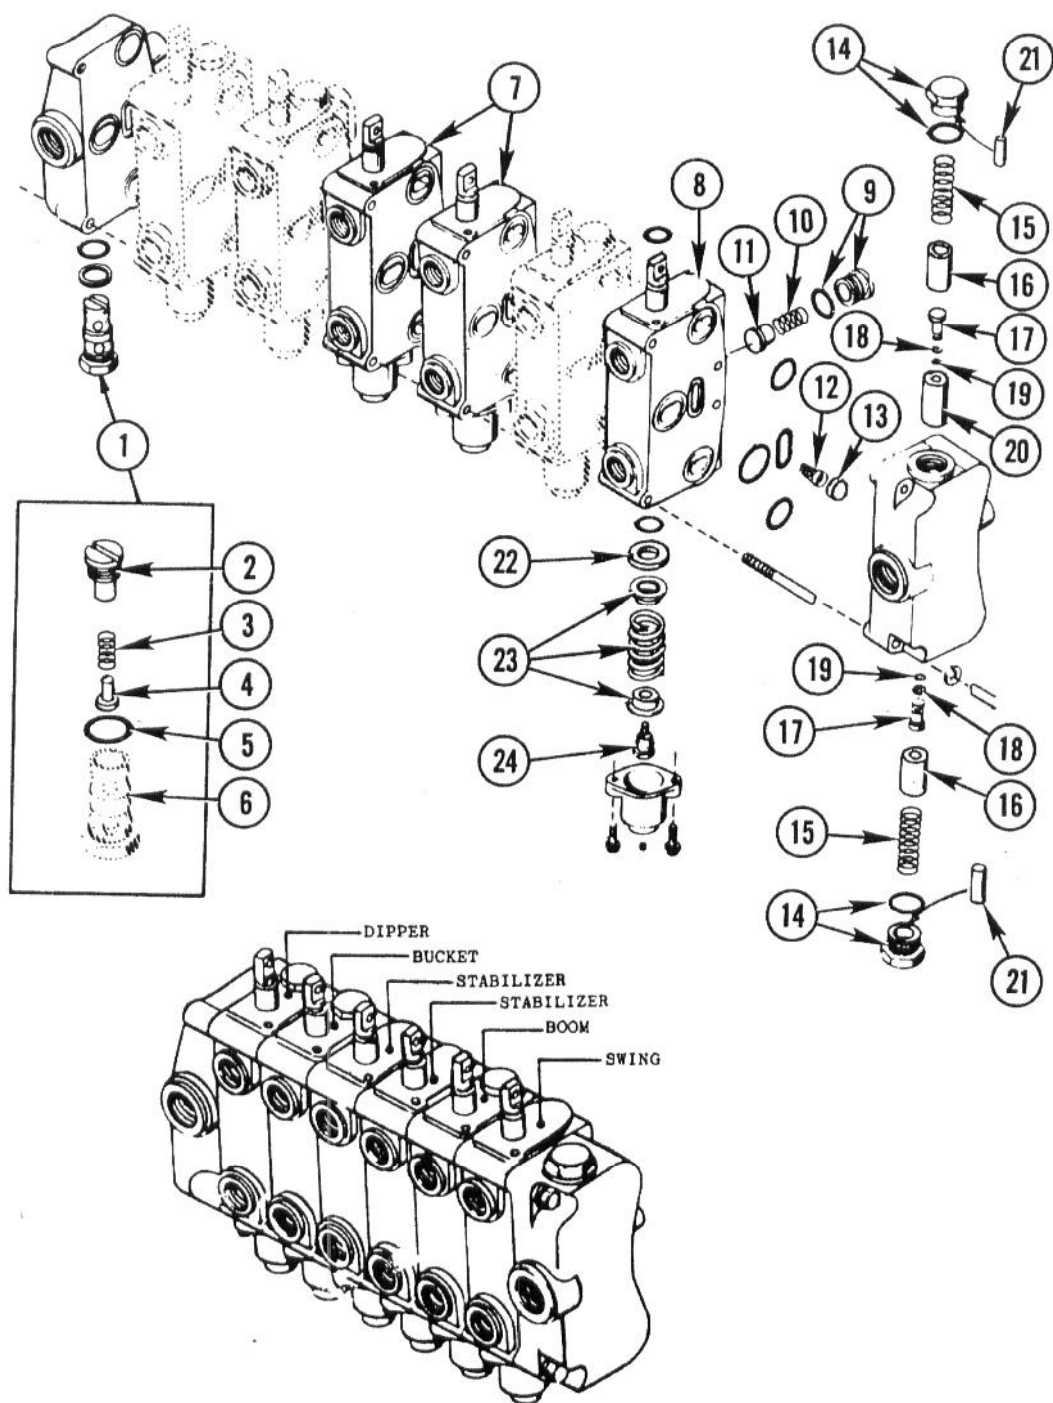

Fig. 14 — End Plates, Swing and Stabilizers Sections of Control Valve
2. The following service operations may be performed without separating the valve "working sections". (In some instances these procedures do not require complete removal of the control valve from its mounting position. This will depend upon accessibility to the valve.), see Figs. 14 and 15.
c. "Working Section" spools, spool seals and spool centering spring — Removal. Refer to Figs. 14 and 15 which show typical spool construction.
d. Lift Check Cage, poppet and seals — remove, clean or replace. Figs. 14 and 15 identifies location (installed in each "working section") and shows components of lift check assembly.
3. To replace seals between valve "working sections", or to replace complete "working section" with matching spool assembly, or to replace either end plate assembly, it is recommended that the valve be removed from its mounting position. Refer to Figs. 14 and 15 which identifies "working sections" and end plate assemblies. The end plate used as an inlet port plate contains a "one-way" check valve assembly. The end plate used as return port plate contains anti-cavitation valves to be serviced.
See Figs. 14, 15, 16, 17, 18 and 19.
NOTE: The removal of orifice plate and/or filter screen illustrated in Fig. 14 ... requires separation of return plate from valve "working section". See Note under Step No. 3f.
4. Service the "load check" poppet valves as follows ... see Figs. 14 and 15:
6. Separate the control valve "working sections" and end plates as follows ... see Figs. 14 and 15: